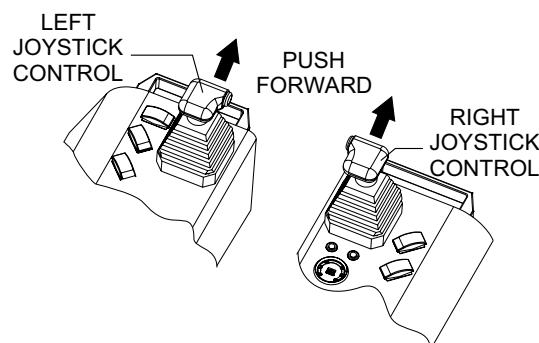

Figure 18. Joystick Control Forward Direction
2. Push both the left and right joysticks forward (Figure 18).